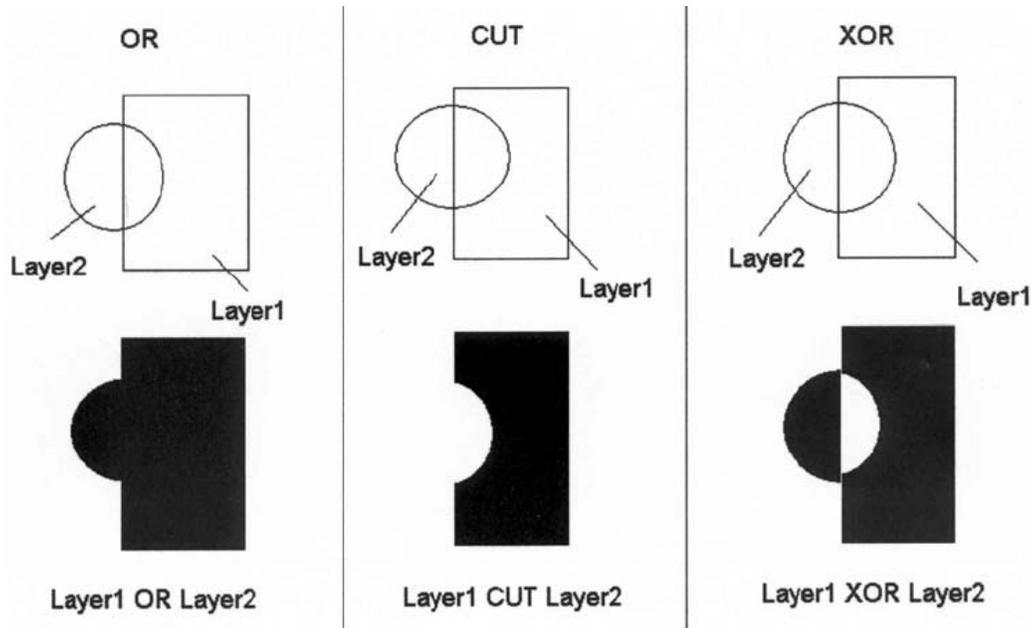

Figure 3. Boolean layer operations (Princeton University)
- In the Options window, select all layers that are to be converted. Individual layers may be joined by Boolean operations as shown in Figure 3.